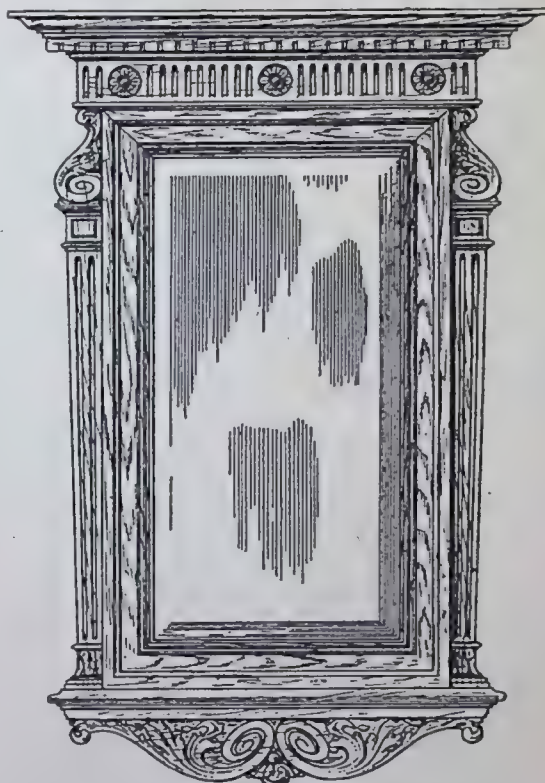
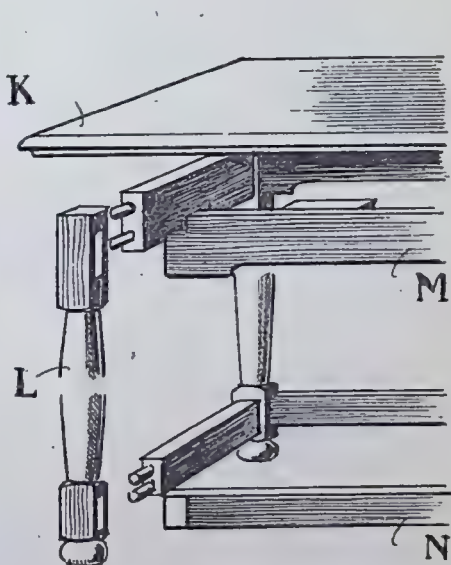
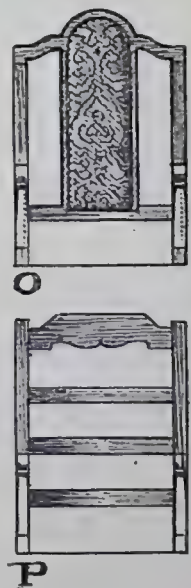
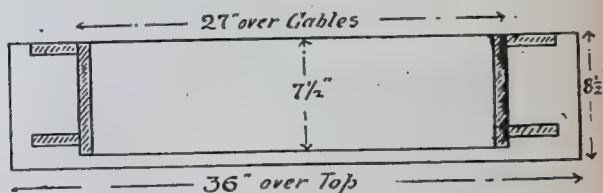

FIG. 4.—ALTERNATIVE FRAME, WITH MIRROR.
FIG. 5.—TABLE PARTS, SHOWING CONSTRUCTION.
FIG. 6.—ALTERNATIVE CHAIR BACKS.
FIG. 9.—PLAN SHOWING TOP, GABLES AND BRACKETS.
Without much alteration of the design a long mirror frame, such as we show at Fig. 4, could be made. It will be seen that the second patera is taken as the centre, and working to this size the central frame will come out at 14 ins. wide—the width over cornice being $21\frac{1}{2}$ ins. If the
Fig. 1.—Wheel with Tyres Fixed. Fig. 2.—Tyre Strake. Fig. 3.—Cramp in Use. Fig. 4.—Wheel with First Strake Fixed. Fig. 5.—Plan of Pit, with Wheel and First Strake Fixed. Fig. 6.—Cramp for Pulling up last joint of Felloe. Fig. 7.—Frame of Pit. Fig. 8.—Felloes with Tyre marked on. Fig. 9.—Strakes Piled up for Heating. Fig. 10.—Sectional Detail showing Shape of Nail. Fig. 11.—Correct Shape of Nail. Fig. 12.—Pit with Wheel in Position.
The regulation appliance is that shown in Fig. 6. This consists of the two iron side bars which are fixed into one of the end pieces and are screwed at the other ends. The movable cross piece slides on these bars, and can be tightened up by means of the nuts on each bar. Both the fixed and the sliding cross pieces have knife edges on the inside. These in use grip the heads of the tyre nails, and by tightening the nuts the last point of the felloes is pulled up closer. The method of using is shown in Fig. 3; five out of the six strakes of tyre are fixed, and the last point of the felloes is
slightly open and has to be pulled up before the last strake can be put on. Fig. 7 shows the top of the tyreing pit, and Fig. 5 shows the pit as seen from above with the wheel in position, and one strake fixed; the wedges B are here still in position.
The top (K, Fig. 5) for the table should be glue-jointed up to finish about 18 ins. by 18 ins., and can be $\frac{1}{2}$ in. thick; or, if preferred, it may be $\frac{3}{4}$ in. thick and moulded. Table is shown with a plain top, but this could be fitted with slips of $\frac{3}{4}$ in. by $1\frac{1}{4}$ in. fillet, mitred round the table edges to form a lipping as some provision against playthings slipping off. For the legs (L) four pieces 15 ins. long by $1\frac{1}{2}$ in. by $1\frac{1}{4}$ in. will be required. These will have the upper $3\frac{1}{2}$ ins. left square, below which 8 ins. can be turned (or pared to roundness as already described) up to shape with a swell in centre. Below this a square 2 ins. can be left, with the lower 1 in. as a ball foot. The square portions can be mortised for the upper and lower rails to enter, or the front and back rails can be tenoned and the side ones doweled.
By way of alternative suggestion for the chair back either of the sketches offered at Fig. 6 will work out somewhat more effectively than the plainer back shown in Fig. 1. The back indicated as stuffed (O) can have the top rail cut to shape from a board 5 ins. wide, to be dowelled down on the back legs—a rebate being cut for the pad to be tacked in. The other sketch (P) has four back rails, the upper one being shaped to accord with the canopy of one of the cradles given in June issue. The effect will be much improved if these rails are curved.
At Fig. 6 is shown the detail of top fixture—a hook, passed through the top bar and bolted. A wide washer should be placed between wood and bolt as a protection against wet. A similar washer, though not necessarily so wide, may be sunk in the underside of bar. The rope is attached by being spliced round a thimble which passes over the hook; in this way the rope does not wear by friction. It ought to be seen, however, that there is no possibility of the thimble being jerked off the hook when the rope slackens, or through any rough usage which swings sometimes receive at the hands of older children.
FIG. 4.—THE SEAT. FIG. 5.—ALTERNATIVE SEAT. FIG. 6.—HOOK AND BOLT. FIG. 7.—IRON STRAP TO BIND TOP BAR TO POST. FIG. 8.—ALTERNATIVE METHOD OF FIXING TOP BAR. FIG. 9.—ALTERNATIVE EYE BOLT. FIG. 10.—SHOWING POST AND BRACES WITHOUT BOTTOM BOARD.
ends of rope to engage in the eyes. The hooks will be closed at the ends so that they may not slip. (See Fig. 9.)